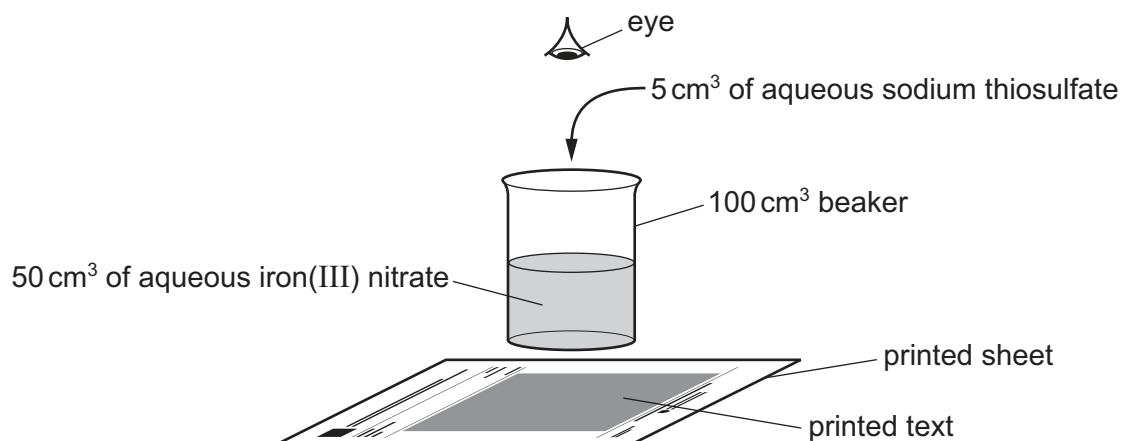

Fig. 2.1
The student does five experiments using the apparatus shown in Fig. 2.1.
- Stand the beaker on a printed sheet as shown in Fig. 2.1.
- Stand the beaker on the printed sheet as shown in Fig. 2.1.